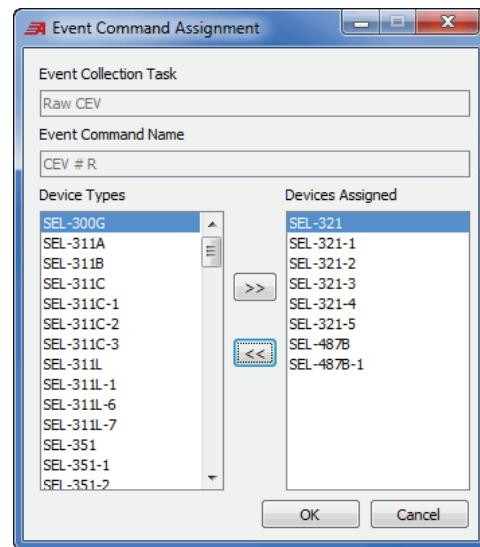

Figure 85 Event Command Assignment
Step 7. Under the **Device Types** column, select **Edit** to open the **Event Command Assignment** window. Select the SEL-321 family and SEL-487B family. To select a group of devices, hold down the **<Ctrl>** key and select multiple Device Types entries. Transfer the selected families to the **Devices Assigned** column by selecting the double-chevron (**>>**) button as shown in *Figure 85*.